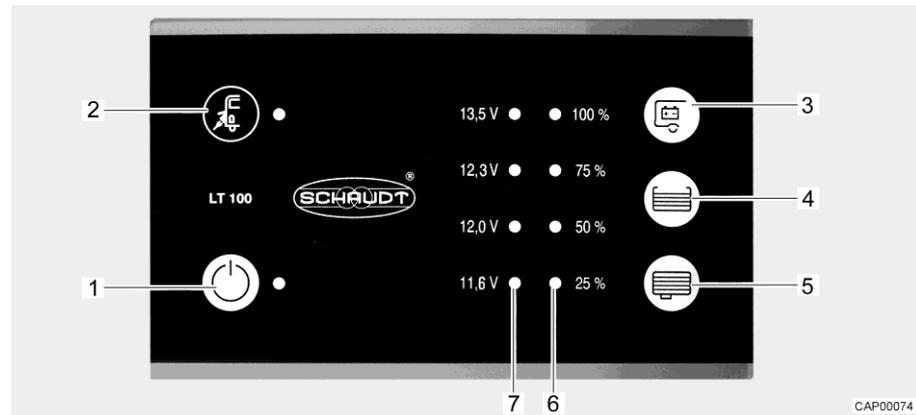

Fig. 46 Panel (LT 100)
The yellow LED at the mains connection symbol "⚡" (Fig. 46,2) is lit when the vehicle is connected to an external mains supply. In this case, the LED will also be lit when the panel is switched off.
The 12 V main switch (Fig. 46,1) switches the panel and the 12 V power supply of the living area on and off.
- Press switch "⏻" (Fig. 46,1): The 12 V living area power supply is switched on. The LED lights up green.
- Press switch "⏻" (Fig. 46,1) again: The 12 V living area power supply is switched off. The LED goes out.
The LED array (Fig. 46,7) displays the battery voltage of the living area battery as follows:
- Press the button " " (Fig. 46,3): The battery voltage of the living area battery is displayed.
The LED array (Fig. 46,6) displays the fill level of the fresh water tank or of the waste water tank.
**Display fill level:** Press the button "☰" (Fig. 46,4): The fill level of the fresh water tank is displayed by lit LEDs.
Press the button "☷" (Fig. 46,5): The fill level of the waste water tank is displayed by lit LEDs.